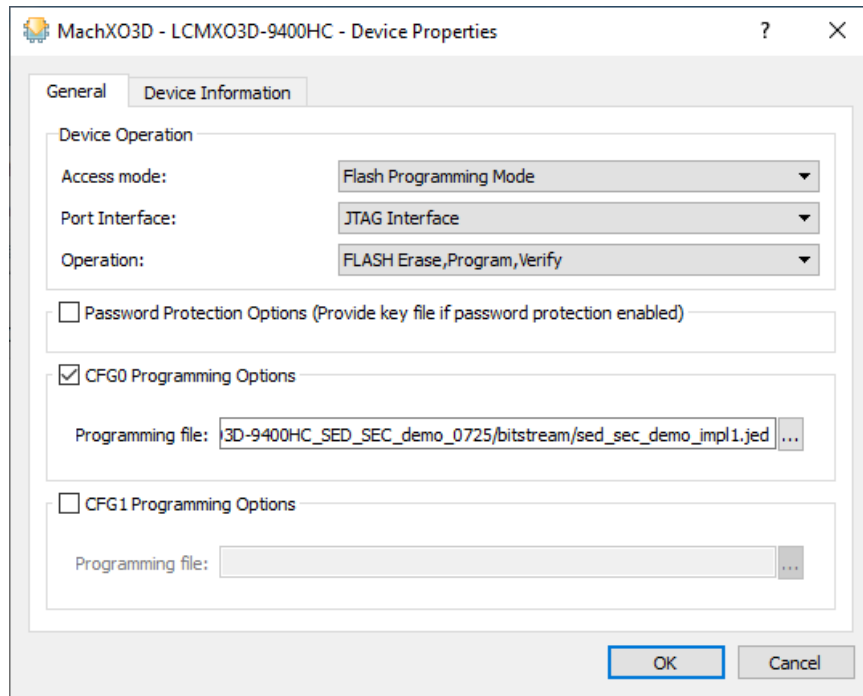

Figure 6.3. Set Device Properties
6. Set device properties as shown in Figure 6.3.